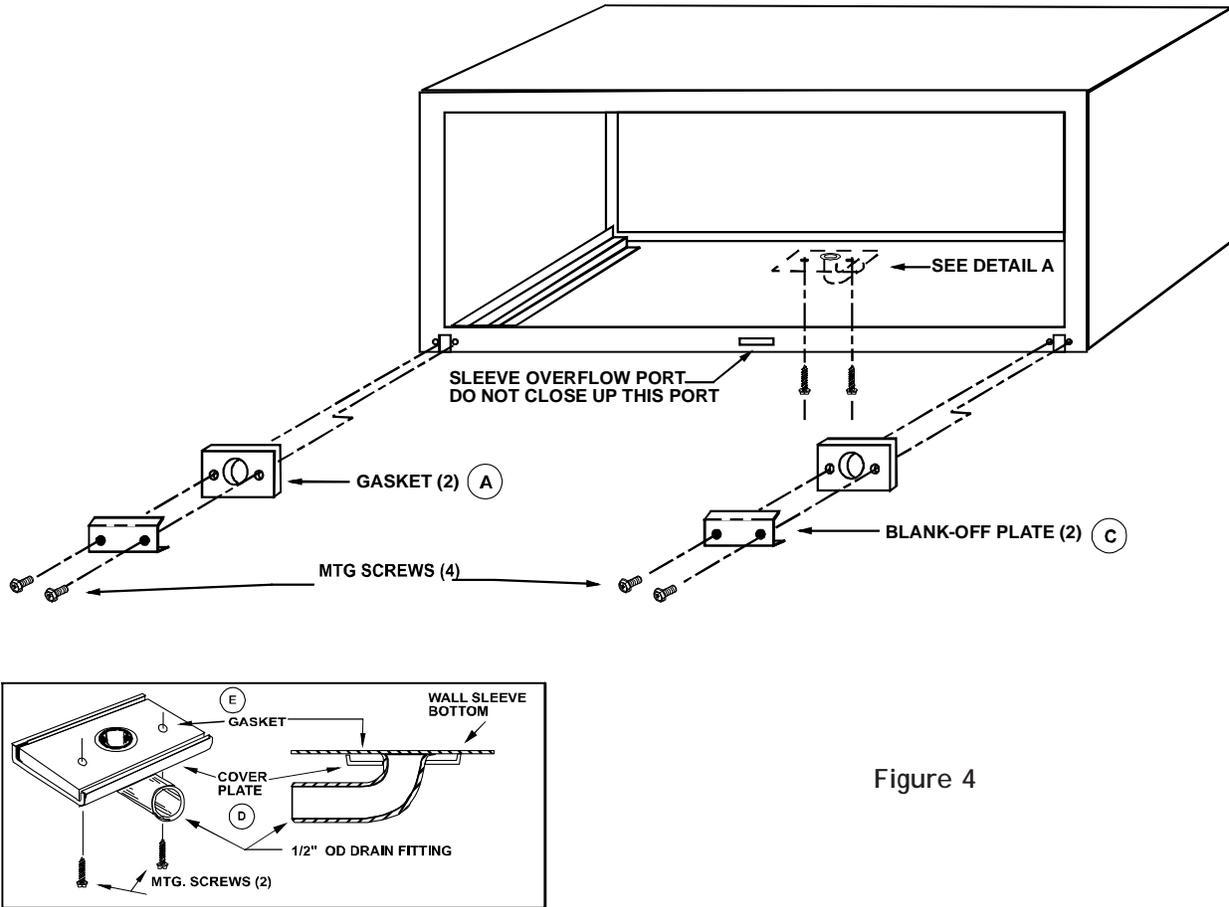

Figure 4
3. Using detail A in Figure 4 as a guide, assemble the gasket (E), drain fitting plate (D), and 1/2" drain fitting together. Install the assembly into the drilled holes and secure using the two slotted mounting screws included in the kit. Be sure drain tube is not restricted.
5. Install the two blank-off plates C and gaskets A on the outdoor portion of the wall sleeve as shown in Figure 4. These components can be installed after the sleeve is secured in the wall opening just prior to the installation of the condenser grille and chassis.